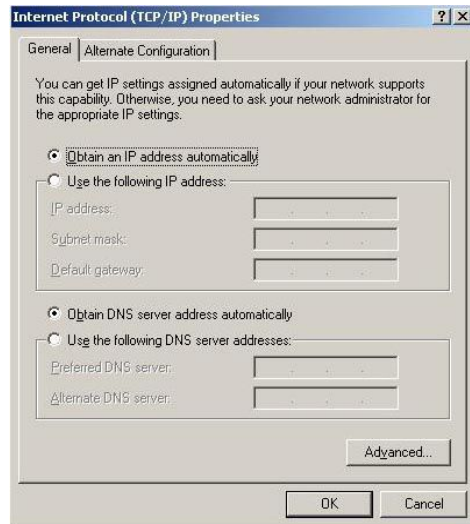

Figure 3
- ▶ The chart (figure 3) appears when the network and a DHCP server are available.